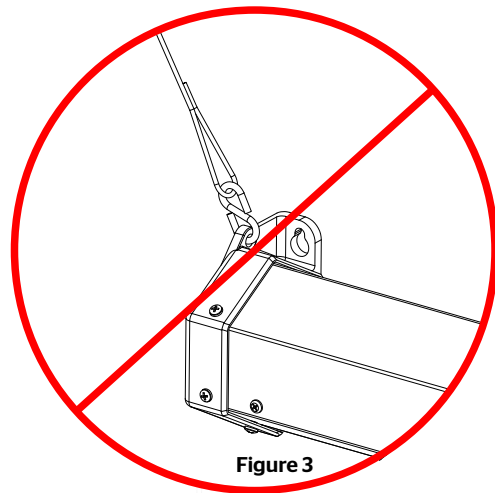

Figure 3
- NOTE: DO NOT** hang from the end caps at an angle. See Figure 3.